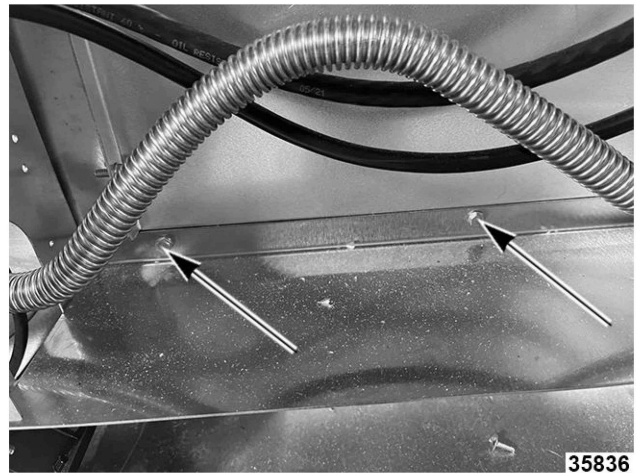

Fig. 38
5. Remove two fan conduit plate mounting screws (Fig. 38).